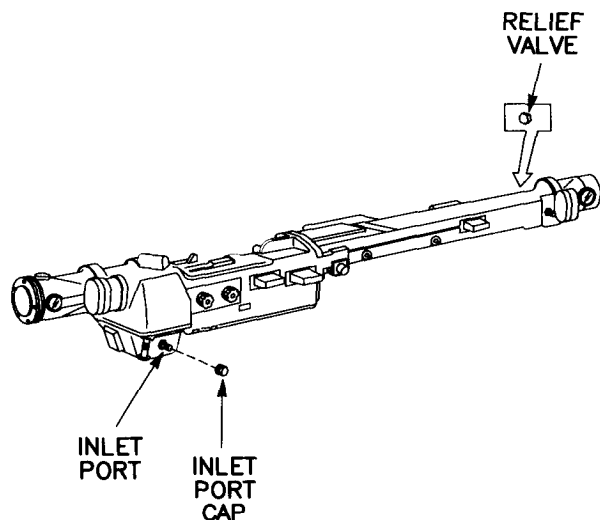

Figure 3-44 M17A1 Body Assembly
c. M17A1, M17B1C, and M17C, (figs. 3-44 through 3-46).
(1) Body Assembly (fig. 3-44)